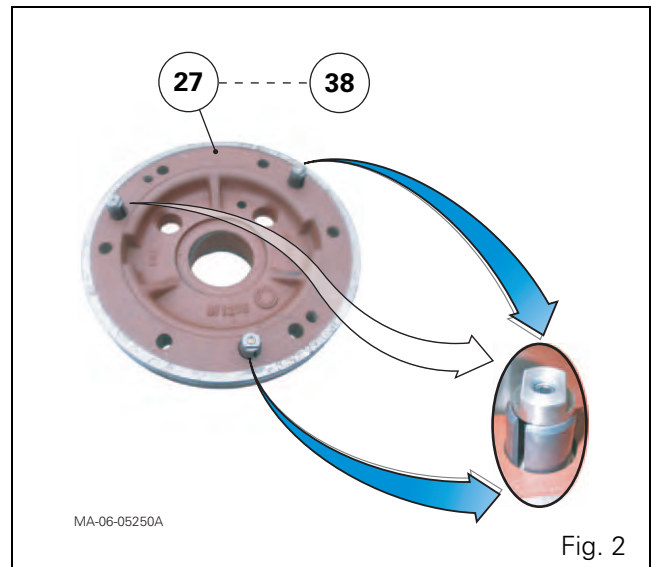

Fig. 2
On tractors fitted with GTA1540 transmission (50 kph), the differential supports (27) (38) are fitted with a mechanical device (Fig. 2) that controls the return of each brake piston (see chapter 6).